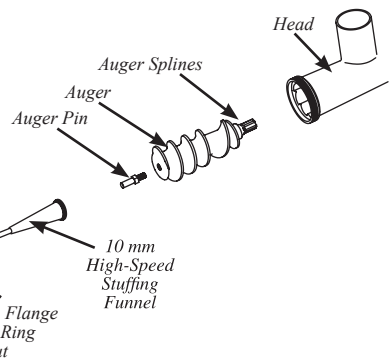

FIGURE 9
3. Insert the Auger into the Head (FIGURE 9). Align the Auger Splines with the Drive Shaft of the Grinder.